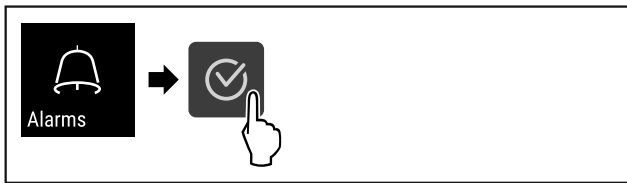

Fig. 97
- ▶ Complete steps (see Fig. 97).